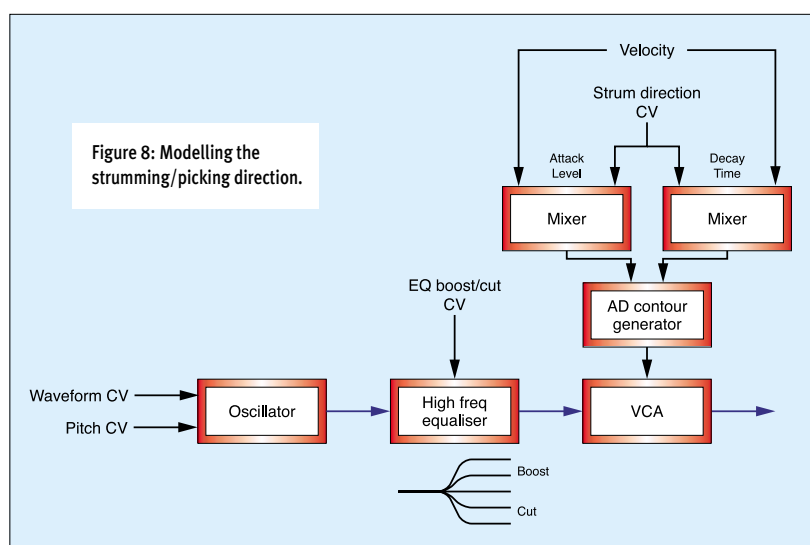

Figure 8: Modelling the strumming/picking direction.
As stated last month, a string plucked parallel to the top plate of the guitar has a lower amplitude, but a longer decay than one plucked perpendicular to the plate. Fortunately, it's easy to model this. We use an AD contour generator that offers simultaneous control over the amplitude of the Attack (AL — Attack Level), as well as the Decay Time (DT). If the strum is parallel, the CV causes AL to decrease and DT to increase. If it is perpendicular, AL increases and DT decreases. We can also use this part of the patch to model the strumming/picking intensity. We do this by directing the velocity CV from the controller keyboard to the Attack Level and Decay Time, increasing each with greater velocity (see Figure 8 above).